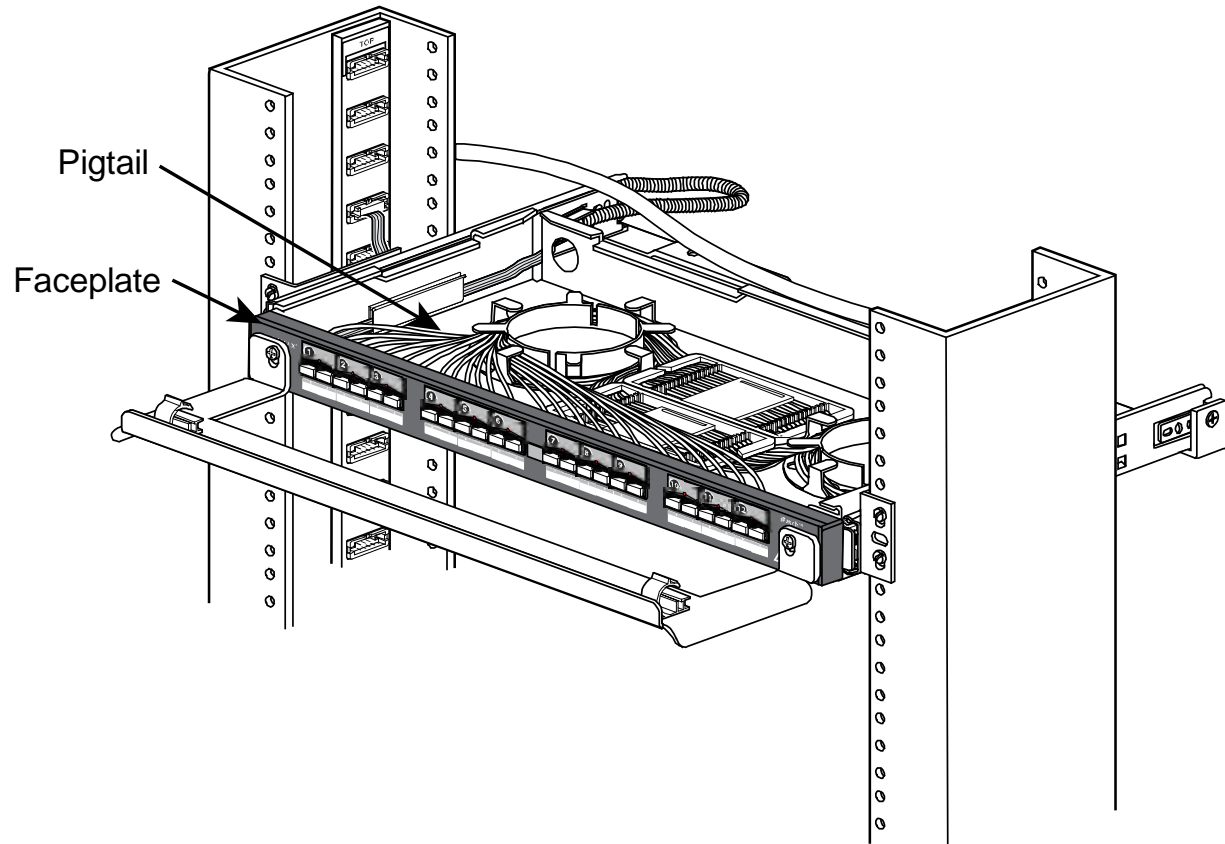

Figure 10 Positioning the Splices and Fibers
3. Affix the two splice organizers to the shelf approximately in the position shown in Figure 10 on page 9.
4. Dress the fibers as shown in Figure 10 and route the slack around the storage drums.